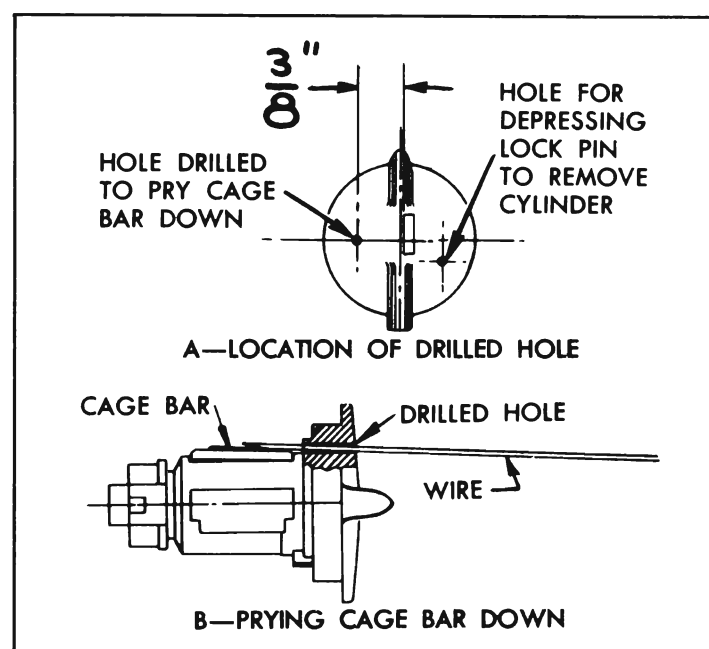

Figure 10-90—Removing Lock Cylinder Having a Loose Cage Bar
To remove lock cylinder, insert key and turn ignition switch to "OFF" position. Insert a stiff wire (paper clip) in small hole in face of cylinder (fig. 10-90, view A) to depress the pin which locks the cylinder, turn cylinder clockwise and pull out. To install lock cylinder insert key, place cylinder in switch slightly clockwise from "OFF" position, press inward and turn cylinder counterclockwise.
1. Draw a centerline on cylinder at 90° to key slot, insert key, and make a prick punch mark on centerline  $\frac{3}{8}$ " from side of key. See figure 10-90, view A. Carefully drill a .0465" hole (#56 drill) through cylinder flange at this point.
hole to pry the cage bar assembly down so that lock cylinder can be turned. See figure 10-90, view B. After turning cylinder slightly, remove the wire to avoid wedging, then remove lock cylinder in the regular manner (subpar. *b*, above).